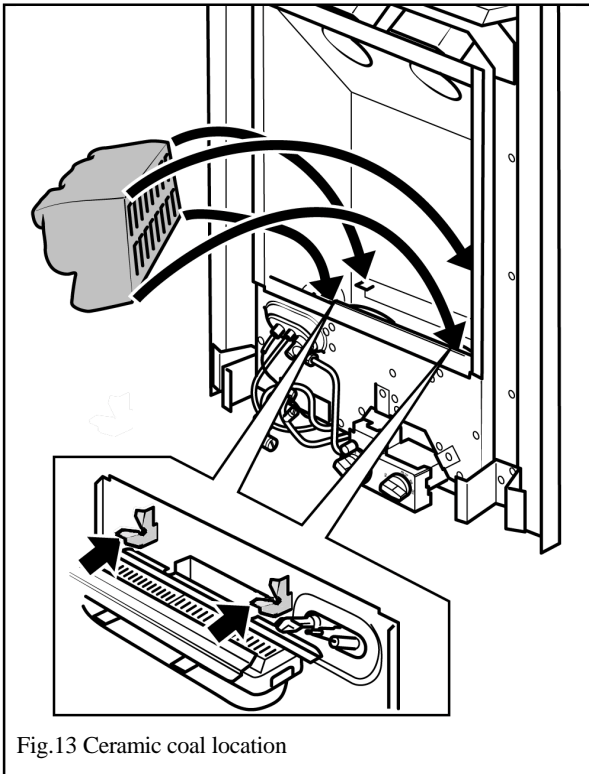

Fig.13 Ceramic coal location
- Fit the ceramic coal into the fire above the burner. The front of the ceramic coal should locate on the horizontal faces but behind the vertical faces of the two location brackets positioned at the front of the burner module. See figure 13.